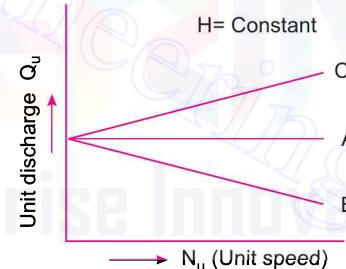

Fig. 4
- 283.** The unit discharge ( $Q_u$ ) and unit speed ( $N_u$ ) curves for different turbines are shown in Fig. 4. Curve A is for
- 284.** Curve B in Fig. 4 is for
- 285.** Curve D in Fig. 4 is for